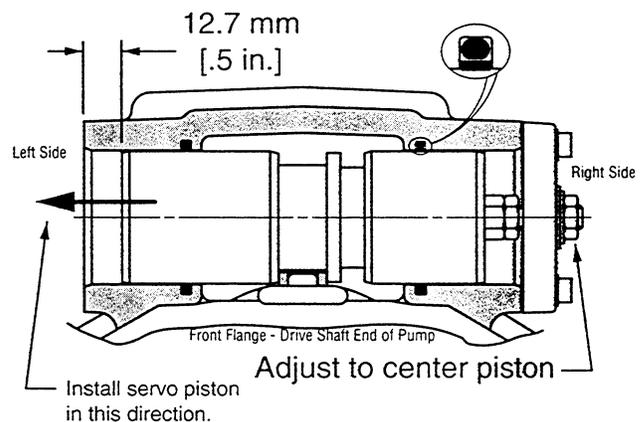

Figure 1-5
- 4 Screw the cover plate onto the servo piston assembly. Install new cover plate gasket in place on housing. Install servo piston assembly and cover plate into servo piston bore in right side of housing (as shown in figure 1-1 and figure 1-5). Retain cover plate with four each washers and cap screws. Torque cap
screws 4.5 to 5.4 N•m [40 to 48 lbf•in.]. To obtain neutral, centering the servo piston assembly is required. Measure in from the left side and set servo piston 12.7 mm [.5 in.] from surface of housing servo bore as shown in figure 1-5.